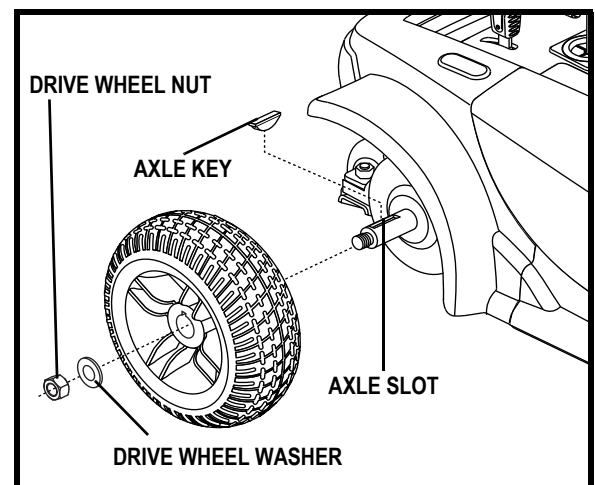

Figure 24. Go-Chair Drive Wheel
3. Remove the drive wheel nut and washer from the axle. See figure 24.